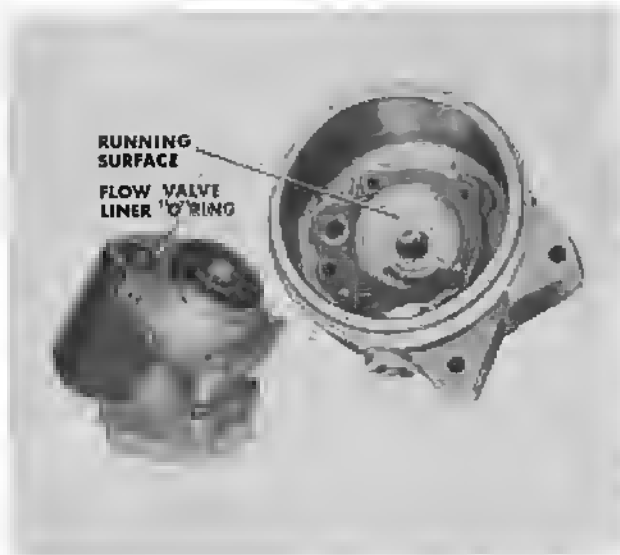

Figure 11 - Assembling the Bearing Cap to the Pump Body
7. Examine the running surfaces of the bearing cap (Figure 11) and the inlet end cap. If heavy scratches or gouging are present or if the port edges are damaged, the part should be replaced.